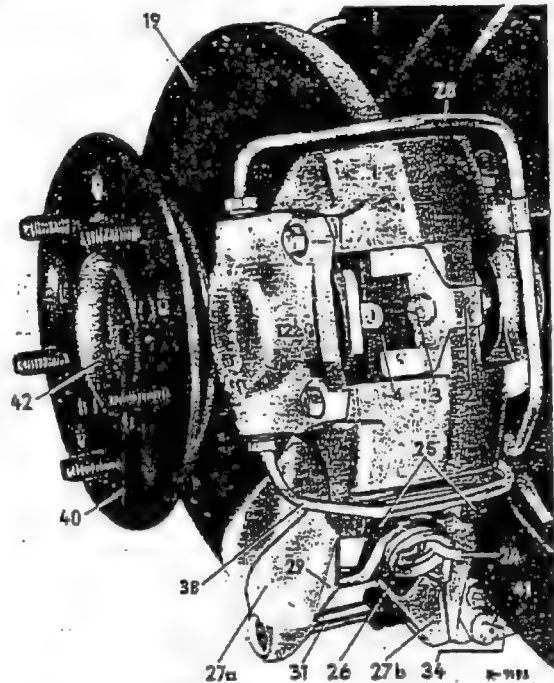

Fig. 42-11/6
6. Measure the run-out of the brake disk on the outer diameter (Fig. 42-11/5 and Job No. 42-0).